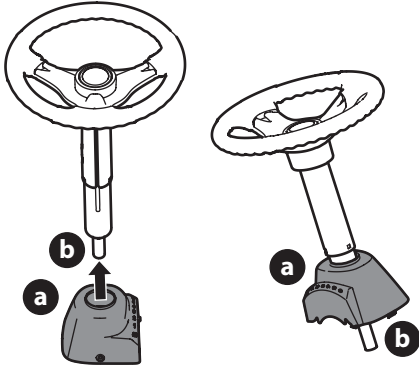

Figure 2
1. Slide the pedestal cap (a) onto the steering shaft (b) so that when the steering shaft (b) is installed on the riding mower, the pedestal cap (a) will be upright as shown in Figure 2.